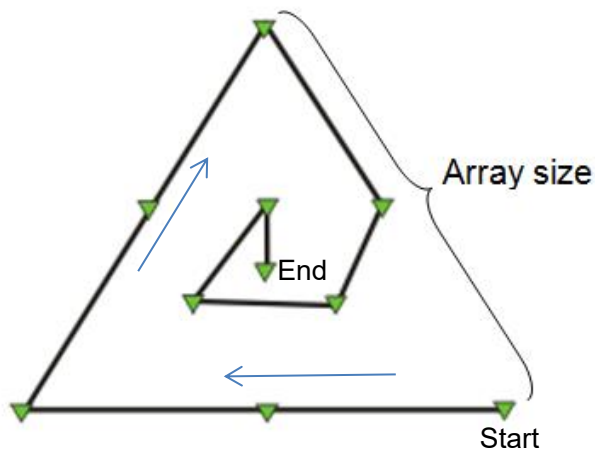

Figure 2.1 Map view of MAM survey equilateral triangle spread configuration with 10 geophones (*Triangle 10*).
1) In microtremor array measurements (MAM), the array size (or maximum separation of receivers) must be larger than the depth of investigation. For example, the array size must be bigger than approximately 30 m in the investigation for an AVS30 investigation. SeisImager allows four set types of array configurations as well as a custom option. Figures 2.1 through 2.5 illustrate the various set configurations. Note that “Array size” in the Figures is the definition used for processing in SeisImager and not the same as the maximum receiver separation. See SeisImager/SW manual for more details. As in Figure 1, the black line represents the order of the Atom’s ID and the green inverted triangles represent each Atom.